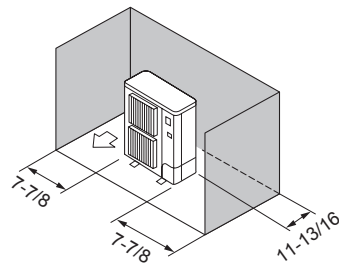

Fig. 3-7
③ Obstacles at rear and sides only (Fig. 3-7)